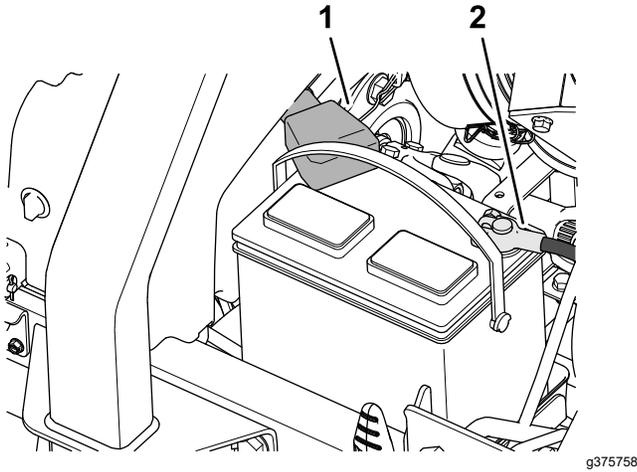

Figure 96
- Install the positive battery cable (red) to the positive (+) battery post (Figure 96).